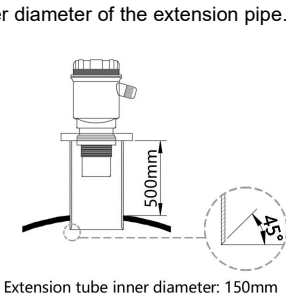

Figure 1
- 3) If the distance from the probe emitting surface to the highest liquid level is smaller than the blind area of the purchased instrument, an extension tube is required, and the diameter of the extension tube is  $\geq 150\text{mm}$ , length 0.2m-0.5m, vertical installation, smooth inner wall, the hole on the tank body should be larger than the inner diameter of the extension pipe. (Figure 1)